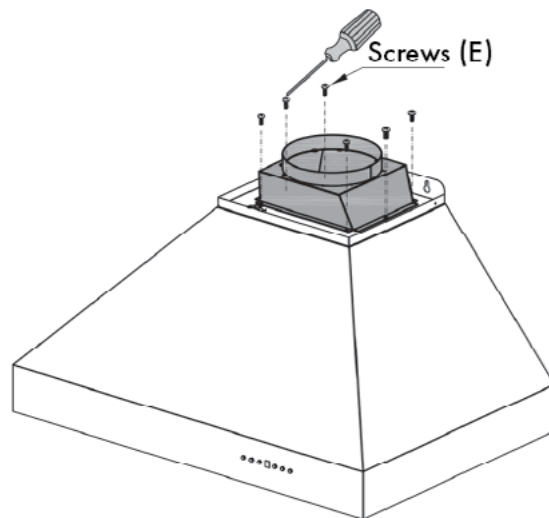

Figure 3
4. Install the transition piece on top of the range hood by securing it with screws (E) provided. Some hoods require 4 screws, others require 6. *Figure 3*